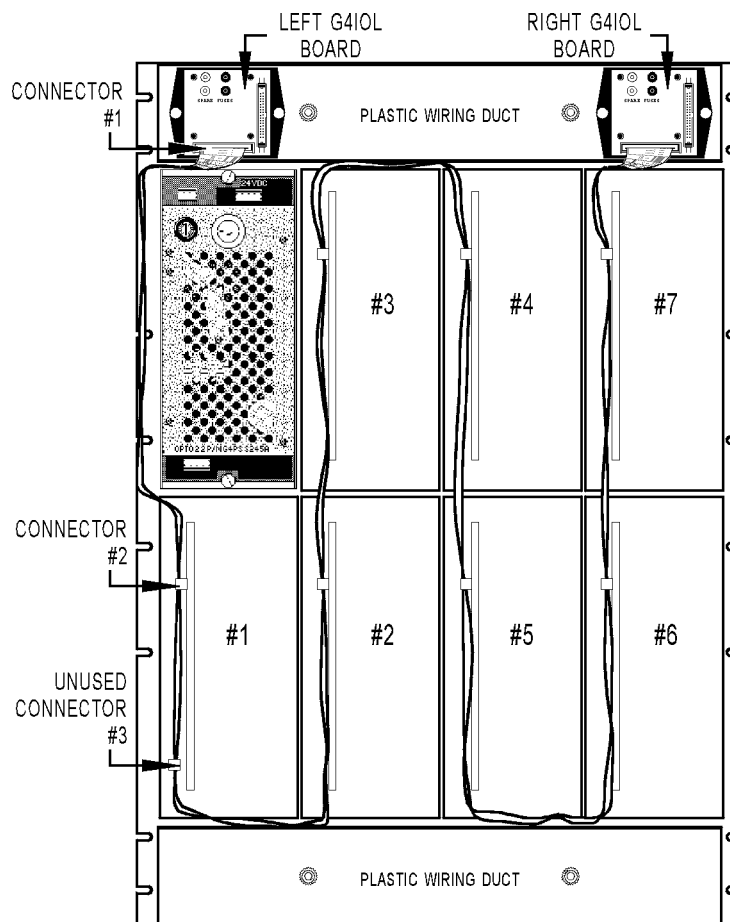

Figure 3-3: Local Bus Wiring for Multiple Panels without a Mistic Controller
1. Attach connector #1 to the left G4IOL board. Attach connector #2 to the brain board at location #1. Attach the remaining connectors into their corresponding bricks. Connector #3 will remain unused in this panel. See Figure 3-3.
2. If the panel is complete and there are additional panels or I/O bricks, attach the last connector to the right G4IOL board. See Figure 3-3.